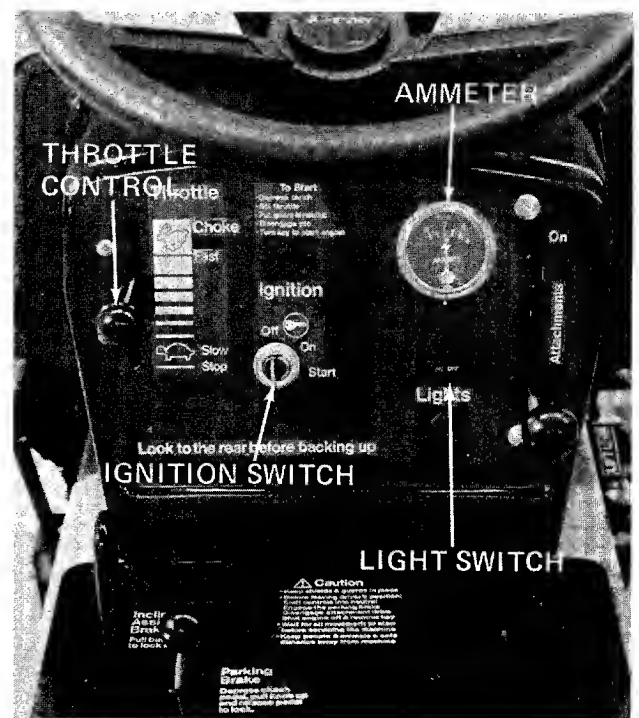

FIGURE 5.
The ignition switch is located in the center of the dashboard. Turn the key to the "START" position to start the engine. When the engine is running leave the key in the "ON" position. To stop the engine, turn the key to the "OFF" position. See figure 5.
The throttle control is located on the left side of the dashboard and is used to regulate the engine speed. See figure 5. The engine should be operated from 3/4 to full throttle (FAST) when operating any equipment that uses the tractor engine as a source of power such as the mowing deck, snow thrower or rotary tiller. See figure 5.
The head lamps are operated by pushing the light switch located on the dashboard. The head lamps will only operate when the engine is running. See figure 5.
The maximum charging rate is 3 amps. The head lamps operate directly from the engine alternator and do not register on the ammeter. See figure 5.
4. Set the throttle control in the "FAST" position. See figure 5.
5. Turn the ignition key to the right to the "START" position. After the engine starts release the key. It will return to the "ON" position. See figure 5.